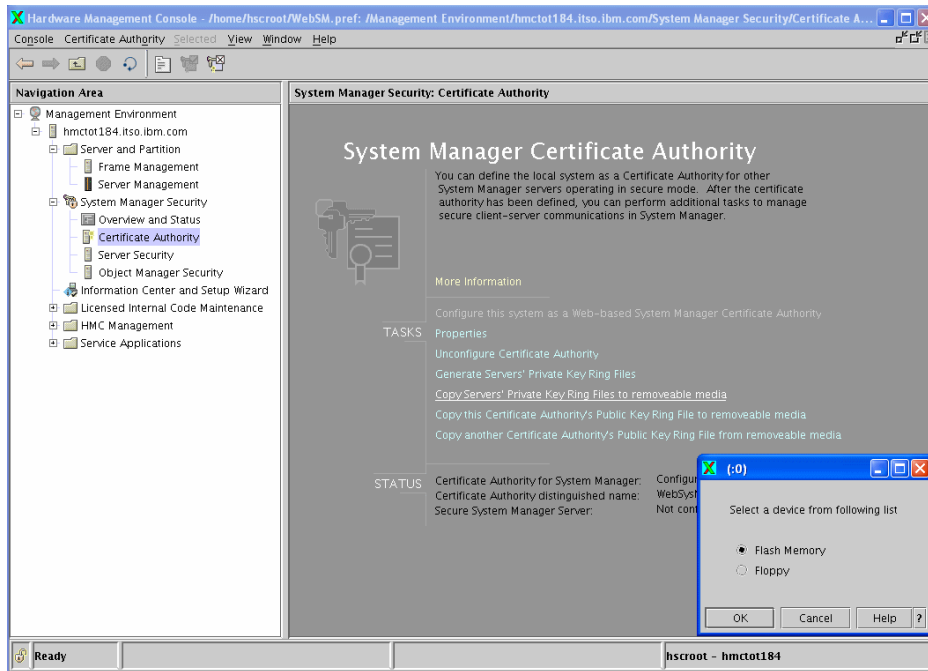

Figure 30 Copying the private key ring file to removable media
**Tip:** To transfer the security keys from the HMC, you can use the floppy drive or a flash memory. Plug the device in the USB port, before running the copy procedure, and then, it will show up in the menu as shown in Figure 30.